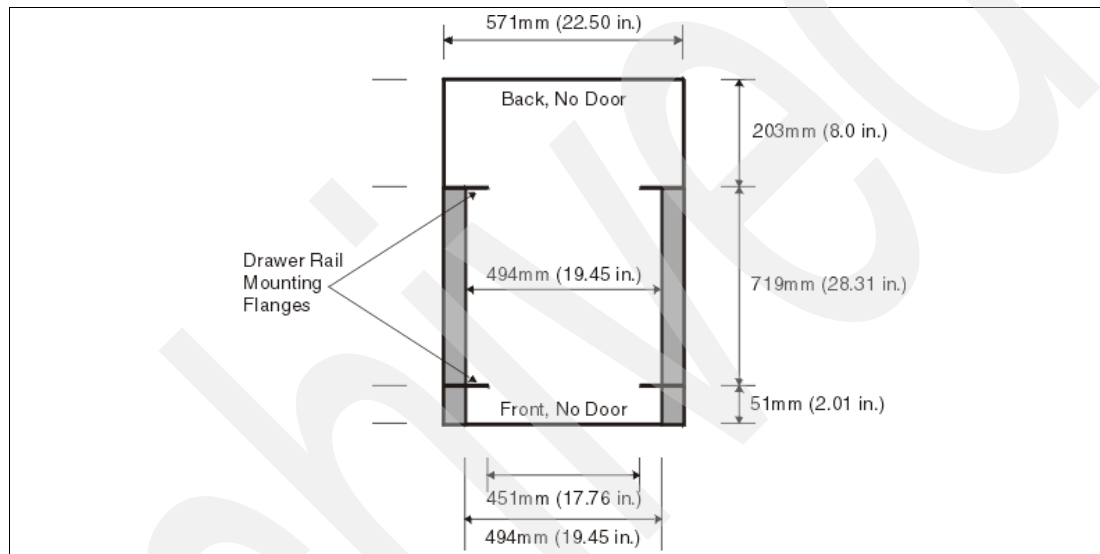

Figure 1-5 Top view of non-IBM rack specification dimensions
- ▶ The front rack opening must be 451 mm wide + 0.75 mm (17.75 in. + 0.03 in.), and the rail-mounting holes must be 465 mm + 0.8 mm (18.3 in. + 0.03 in.) apart on center (horizontal width between the vertical columns of holes on the two front-mounting flanges and on the two rear-mounting flanges). See Figure 1-5 for a top view showing the specification dimensions.